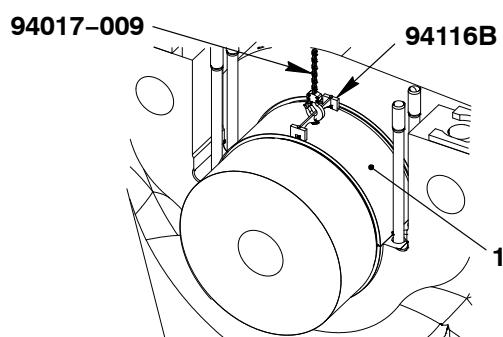

Fig. 15
- 8) Remove the bearing shell (1, Fig. 15) as shown in Fig. 16.
- 10) Install the lifting tool (94116B) to the bearing shell (1).